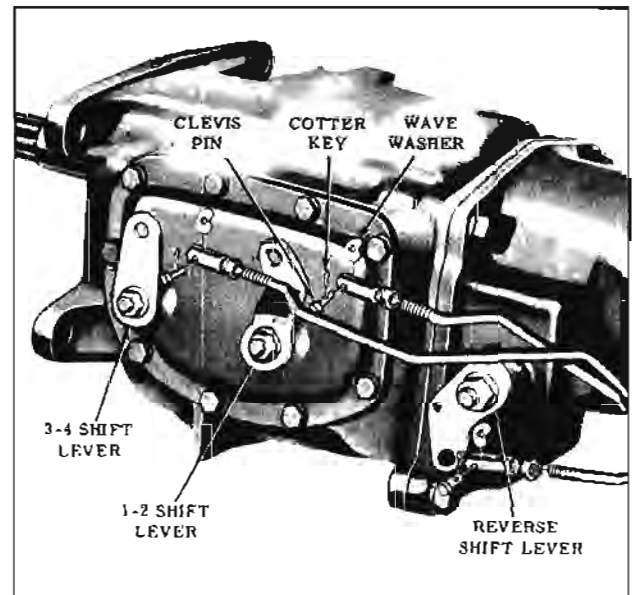

Fig. 11-213 Shift Rod Removal
1. Remove the 3-4, 1-2, and reverse shift rods from the outer shift levers at the transmission side cover and extension housing. (Fig. 11-213)